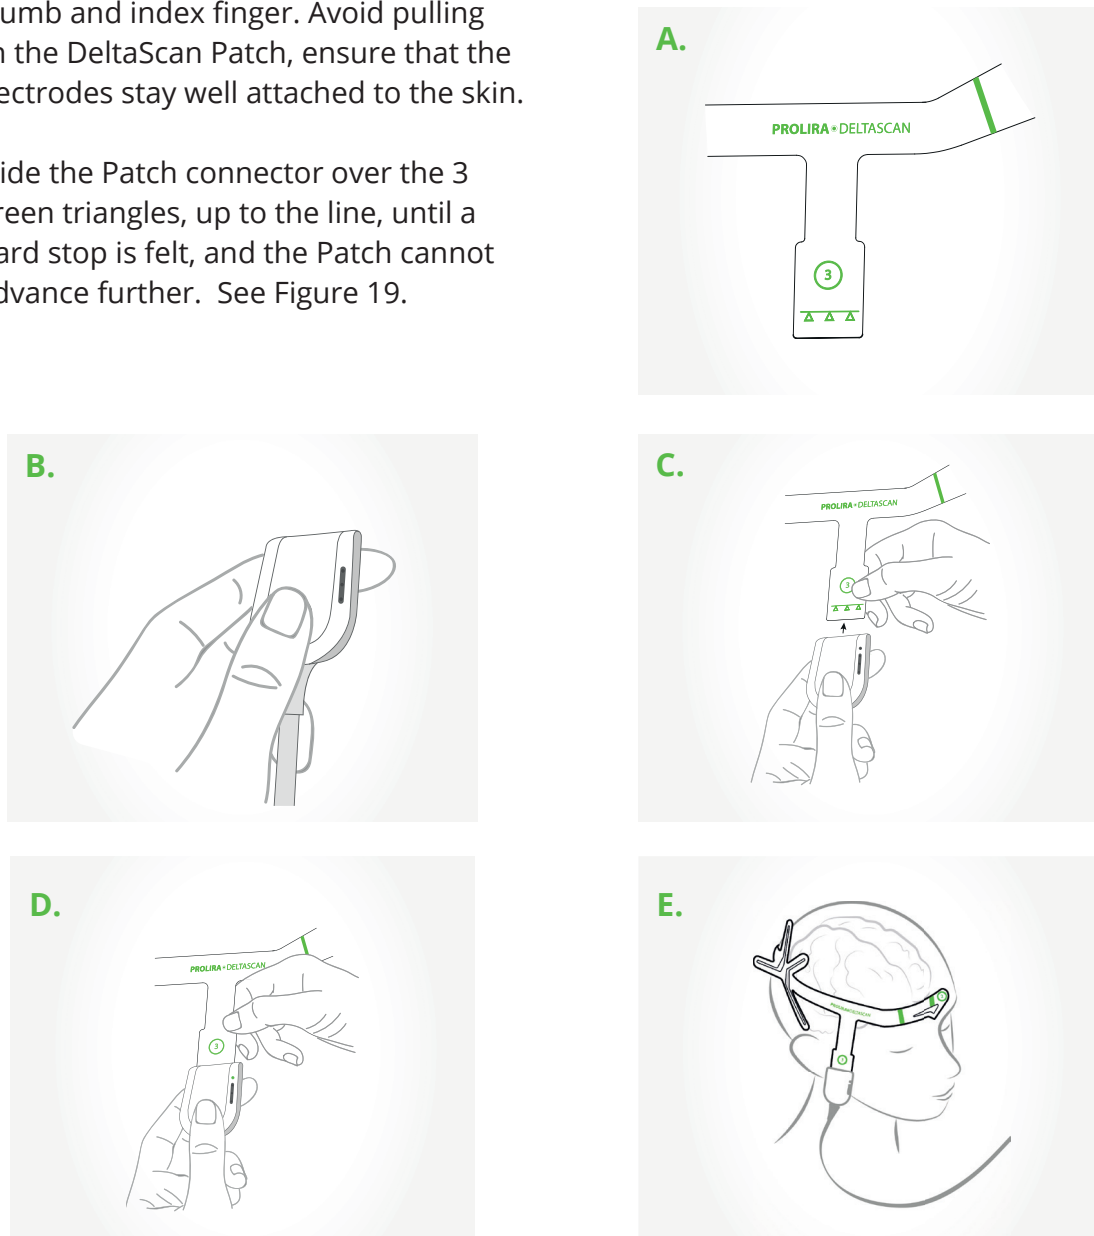

Figure 19:
- Slide the Patch connector over the 3 green triangles, up to the line, until a hard stop is felt, and the Patch cannot advance further. See Figure 19.